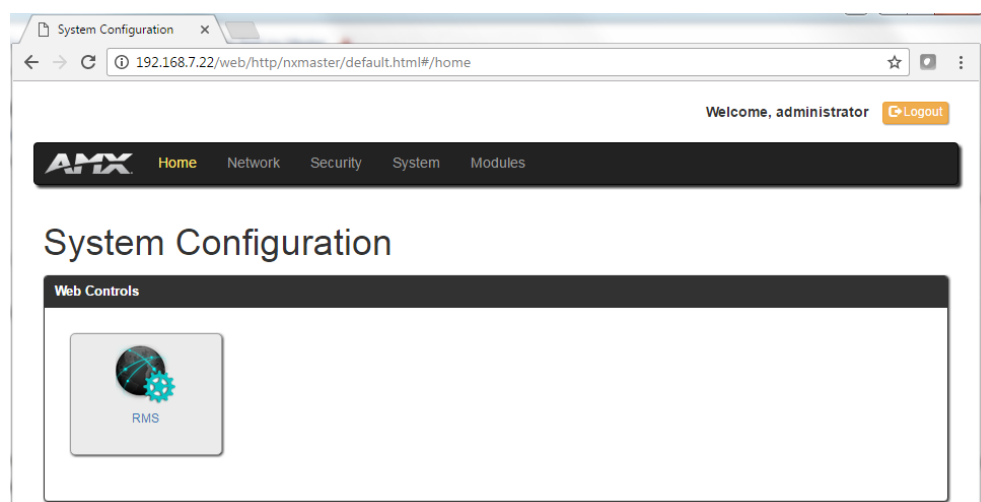

FIG. 481 NX Master -System Configuration
- Click on **RMS** (FIG. 481):